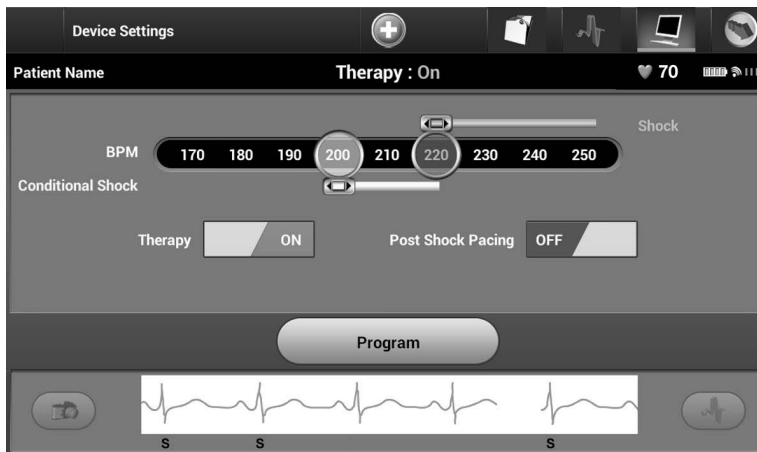

Figure 30: *Setting the On/Off Therapy switch*
4. Select the On/Off Therapy switch to set the desired therapy mode (Figure 30).